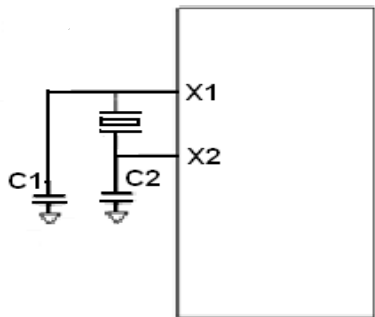

Fig 2.8 Clock Circuit
The two pins X1(1) and X2(2) are available to connect a crystal. The frequency is internally divided by two, therefore when a crystal of 6 MHz is connected then the clock pulses generated will be of 3 MHz. 8085 has on chip oscillator across the pin 1 and 2. Fig.2.8 shows crystal interface circuit. It will give stable frequency. Capacitor C1, C2 are used to avoid external noise